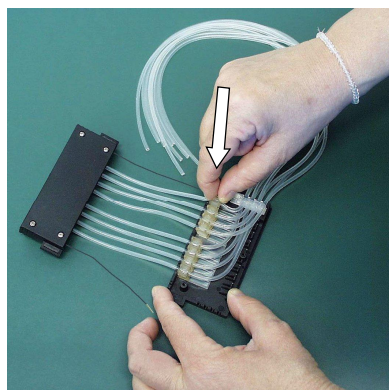

Figure 5-44. Pressing the tube fasteners into place
9. Press each tube fastener into place in its groove on the plastic sight window (Figure 5-44).